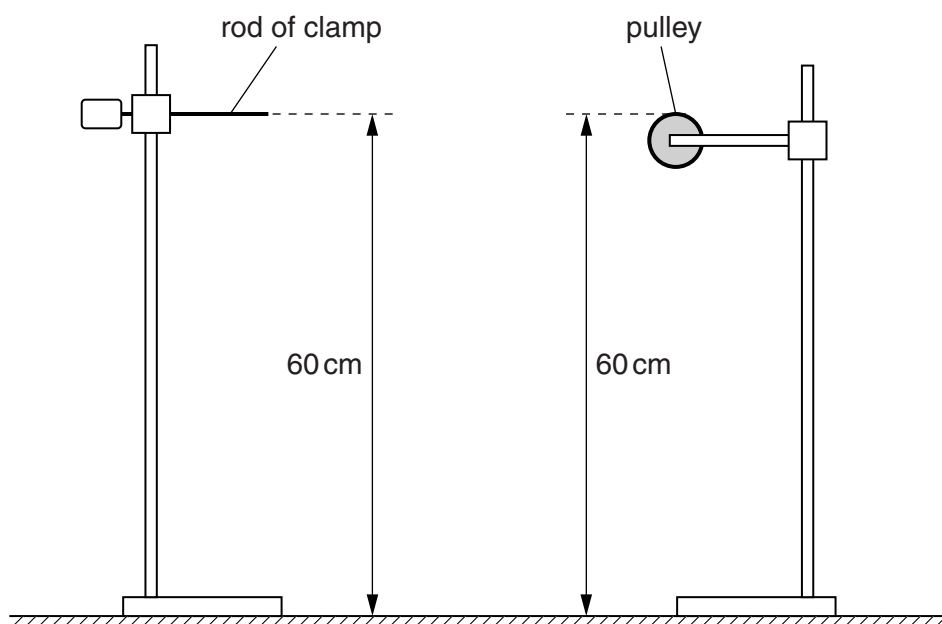

Fig. 1.2
- 2 The stands, bosses, clamps and pulley should be set up as shown in Fig. 1.2.
- 4 With the stands, bosses, clamps and pulley set up as in Fig. 1.2, the rest of the apparatus should be laid out on the bench. If it is to be used by another candidate, then it should be restored to its original state.